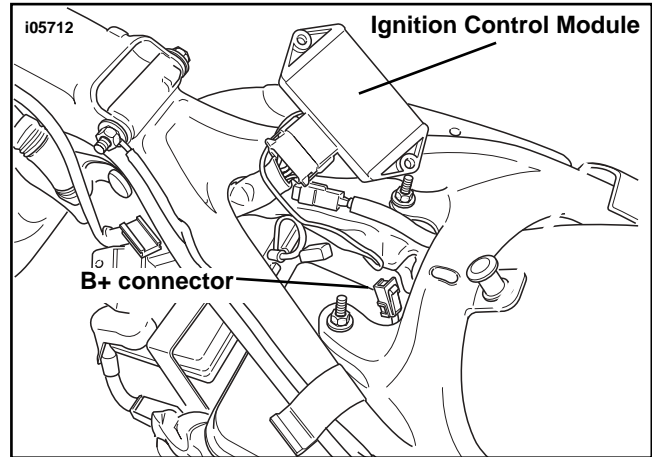
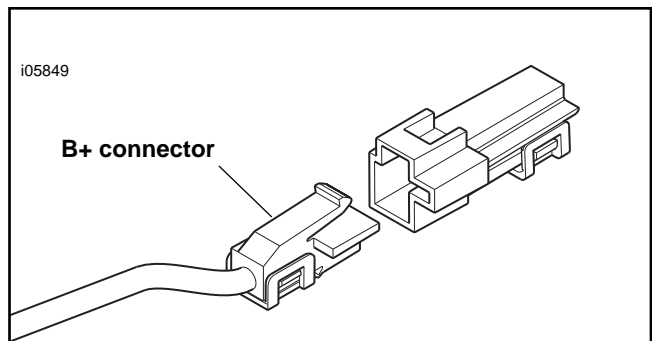

Figure 1. Ignition Control Module
Figure 2. B+ Connector located under ICM
3. See Figure 1. and Figure 2. Loosen nuts on the Ignition Control Module and tip the module out of the way to gain access to the B+ Connector.